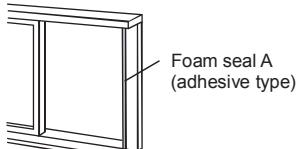

Fig.12
1. Cut the foam seal A (adhesive type) to the proper length and attach it to the window frame. See Fig.12.